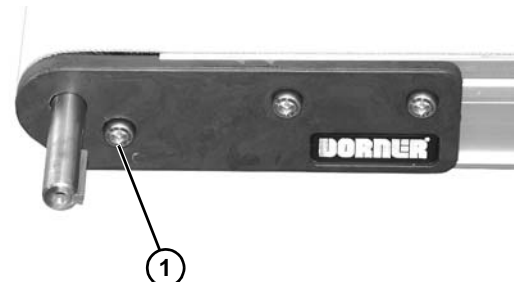

Figure 10
4. Install M6x8 socket head screw (Figure 10, item 1) and washer.